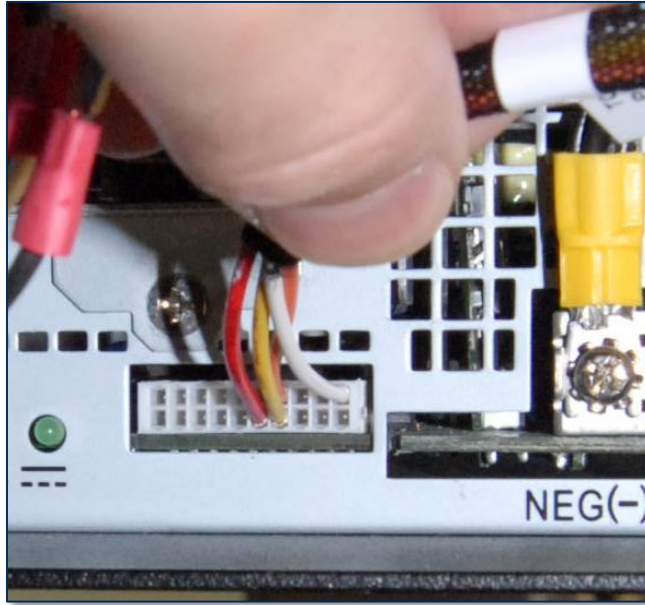

Figure 3-6 – Power Supply Control and Monitoring Connector (LEFT VIEW)
- 8) Unplug the white plastic power supply control and monitoring connector shown in **Figure 3-6**.